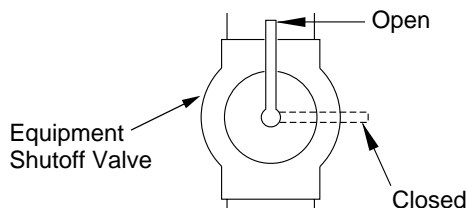

Figure 16 - Equipment Shutoff Valve
1. Close equipment shutoff valve (see Figure 16).
1. Open equipment shutoff valve (see Figure 16, page 12).